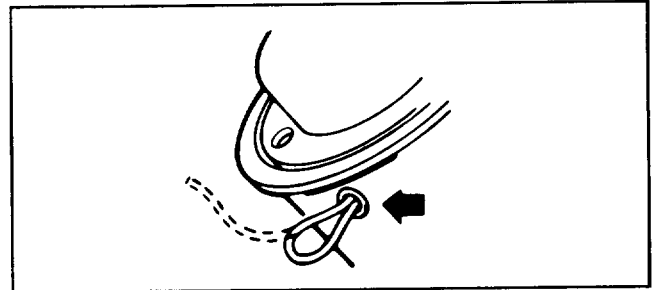

Figure 16
10. After each use, either retape or loop the line through the eyelet (Fig. 16) to prevent unraveling.